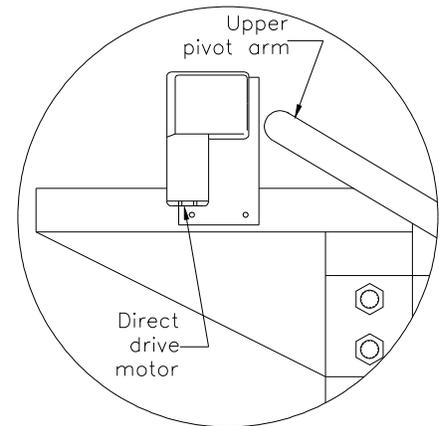

FIGURE 5
11. Swing the complete pivot arm assembly forward until it rests on the head assembly. The RCP should be resting in the center of the head assembly opening (see **Figure 5**). If the RCP is not landing in the center of the opening, remove the tack welds that hold the upper arms into the lower arms and adjust where the RCP lands. Tack weld arms in new position.